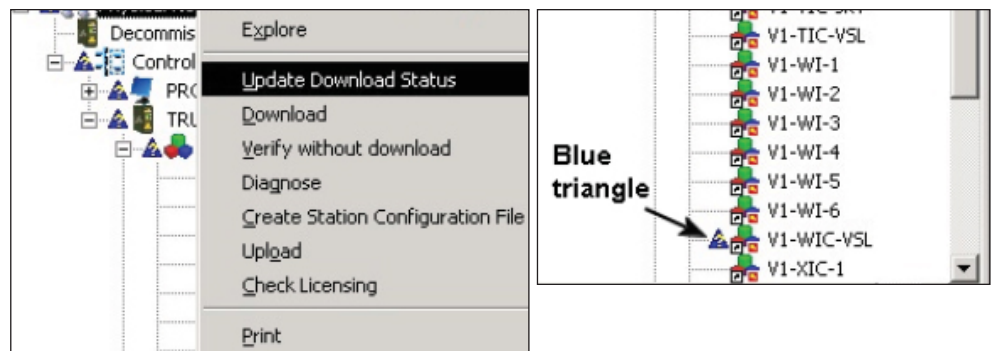

Figure B.4. Update Download Status and blue triangle detail.
5. Click **OK** in the upper right corner of the box to save the selections. A blue triangle appears next to **Vx-WIC-VSL**, indicating a download is required (Figure B.4).